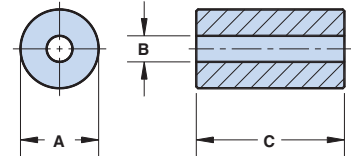

Figure 2
- Figure 2 rods are also used in the assembled bobbins, listed on page 104, Figure 5. These rods have a 0.6mm (.024") maximum chamfer on the end faces.